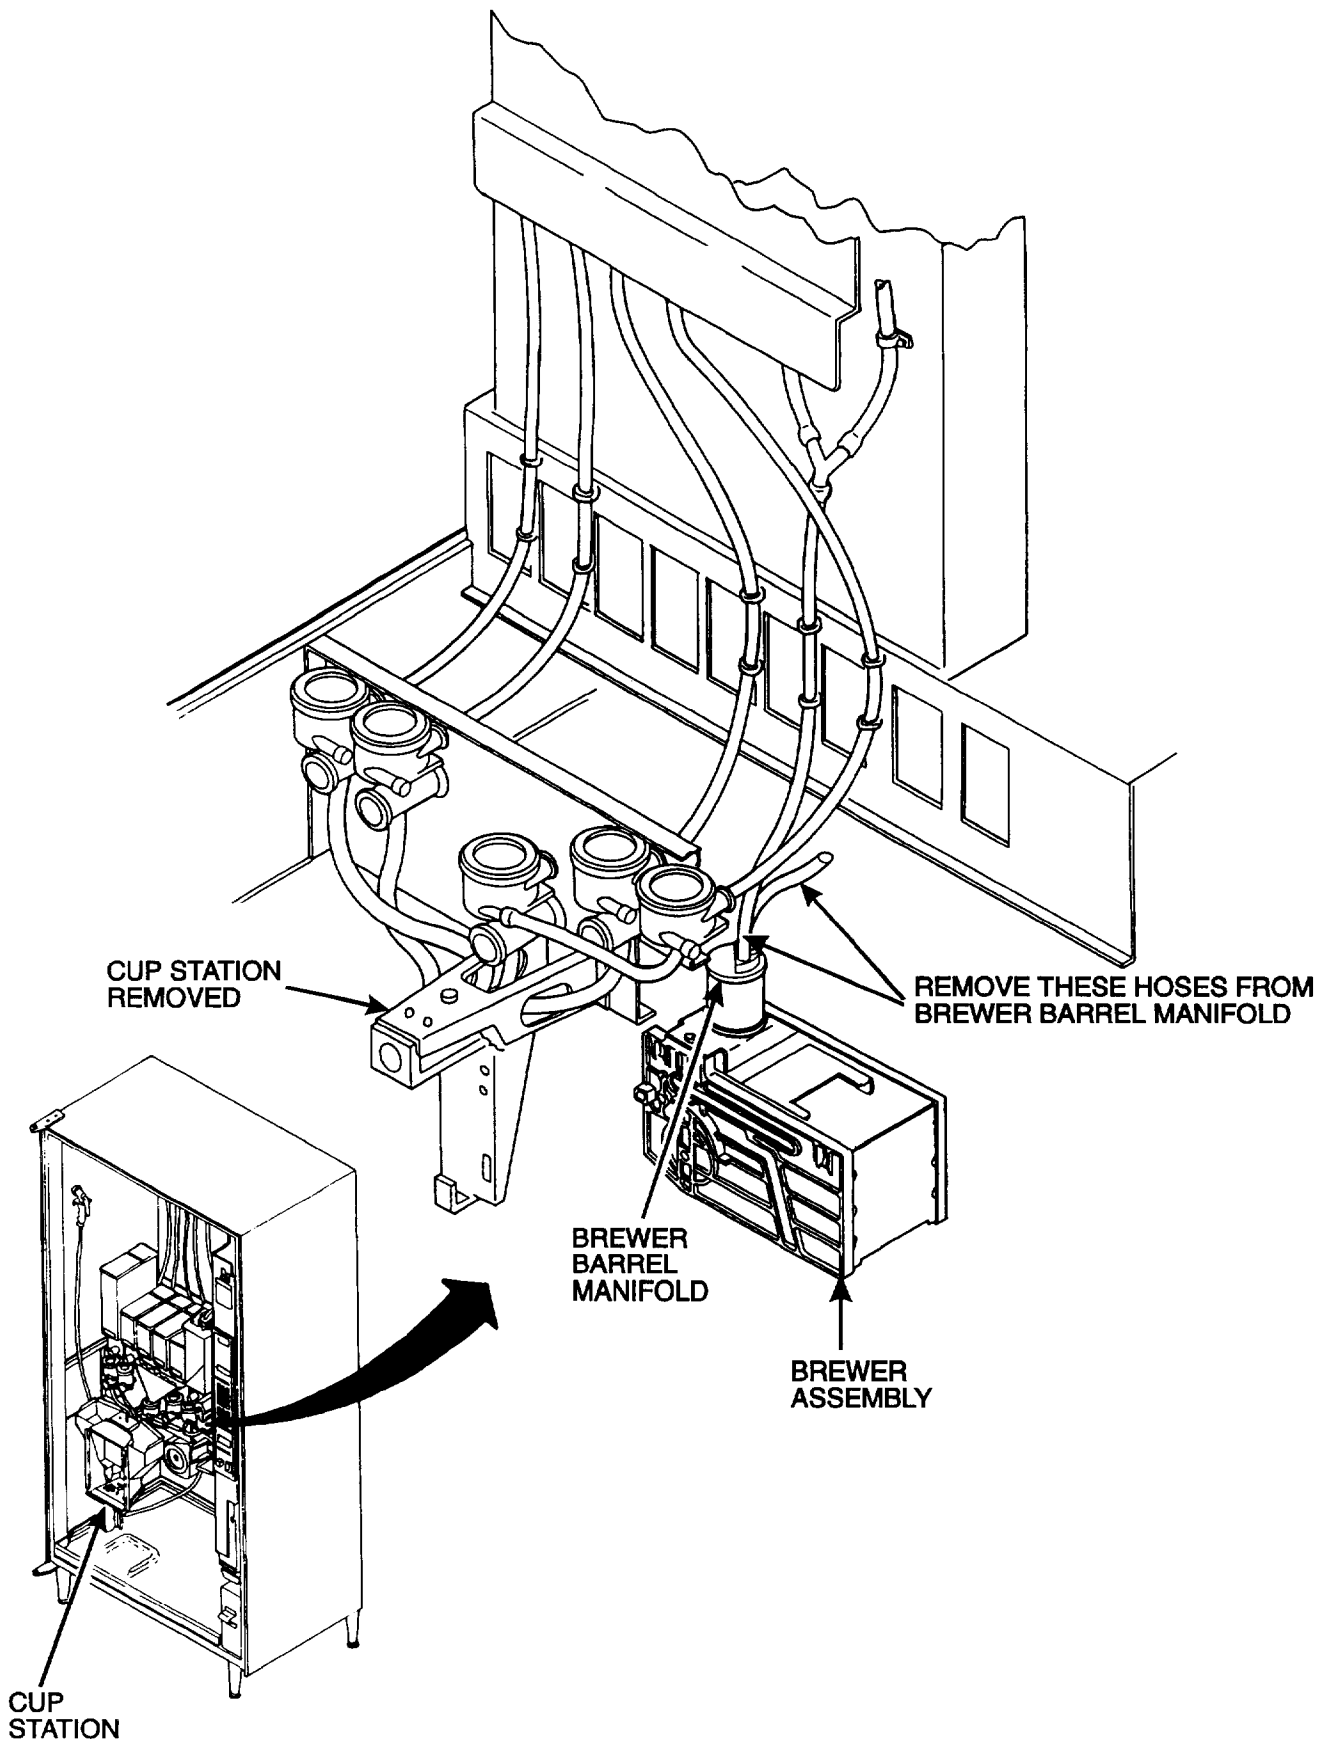

FIGURE 1
1. Remove the cup station (figure 1).
2. Disconnect the two hoses from the brew barrel manifold and one from the coffee funnel. [Identify the hoses to aid in the reassembly] (figure 1).
3. Take the brewer assembly out of the merchandiser (figure 1).
16. The brewer assembly is now timed and reassembled and ready to be reconnected to the Hot Drink Center (figure 1).